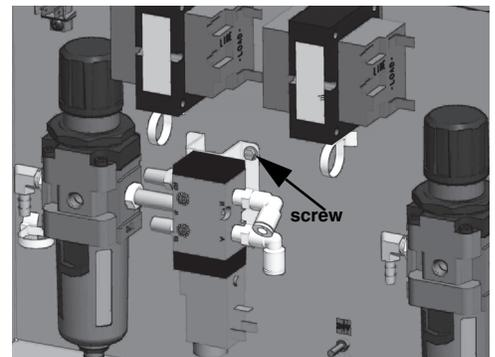

Figure 57.
3. Shut OFF the air flow valve at rear side of unit and disconnect the tubes connected to pressure regulator as well as on direction control valve Remove the two screws from the bracket as shown in Figure 57.